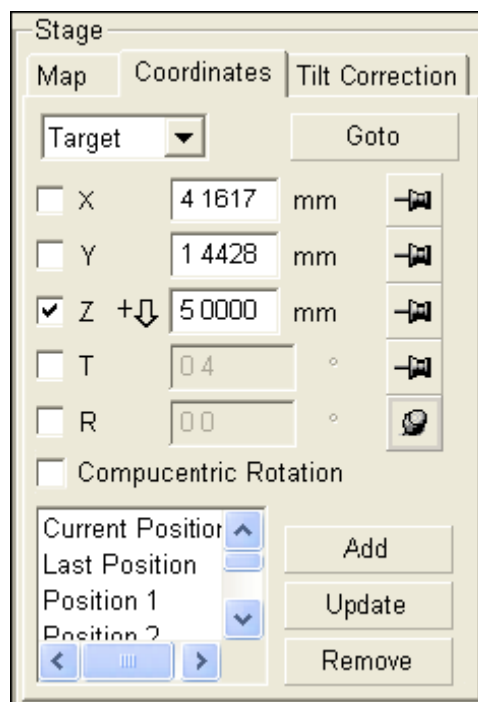

Figure 5 – Coordinates tab
- 2.12 Set the Z coordinate value to actual electron Free Working Distance (FWD) (**Link Z to FWD**) by clicking on the icon  or press on the keys **Shift** and **F9** (**Shift + F9**) at the same time. This icon will change to  indicating that Z is properly linked to FWD. It should be safe to change the working distance by setting a Z coordinate (refer to figure 5).